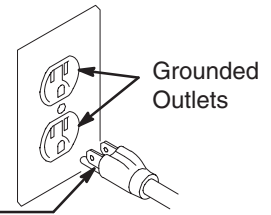

Fig. 3
1. This equipment requires a 120 VAC, 60 Hz, 15A circuit with a grounding receptacle. See Fig. 3.